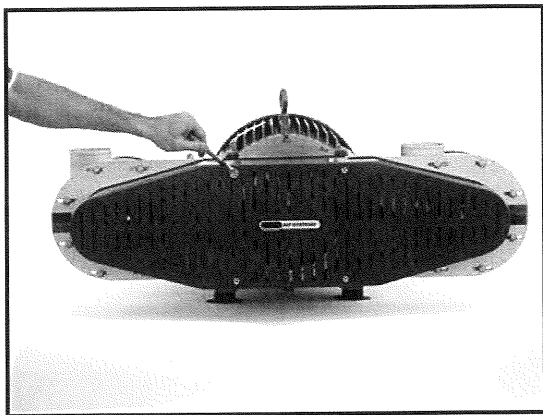

Figure 24 - Remove Belt Guard
1. Remove the belt guard using the ½ inch box-end wrench. (See Figure 24)